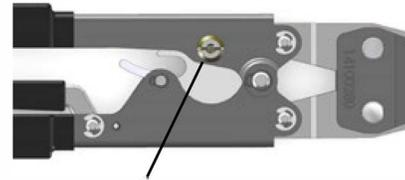

Fig. 9: Adjustment nut
1. Using a pincer tool calibration wrench* or straight blade screw driver, loosen adjustment nut (Fig. 9).